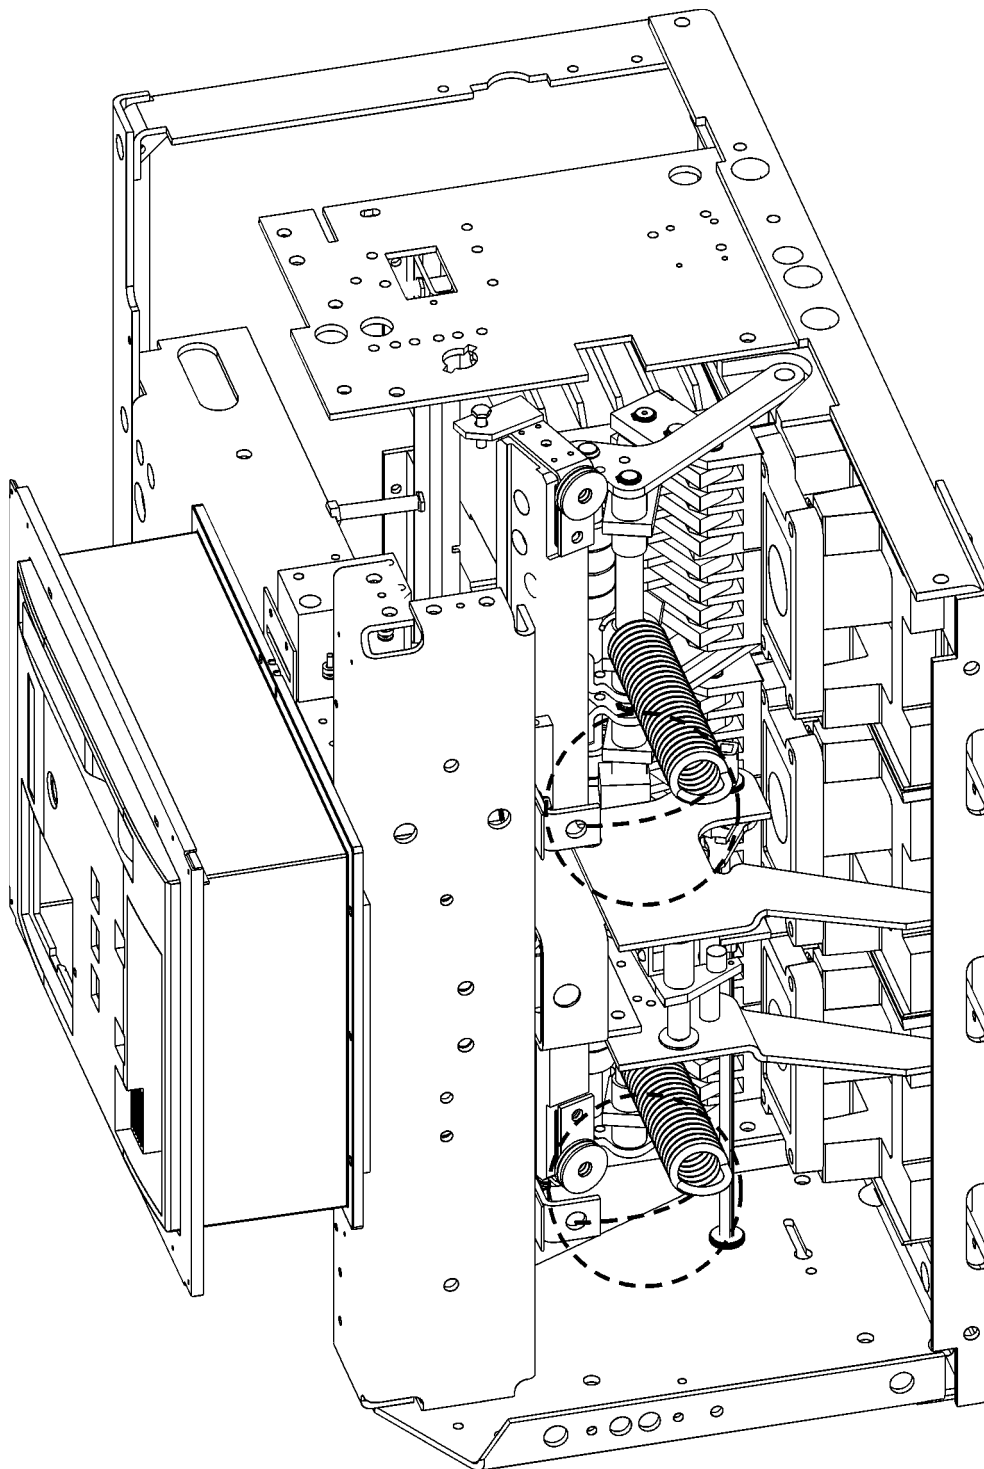

Figure 5-5. Removal of the two opening springs from the outside poles (view from the bottom of the breaker).
6. Remove the two opening springs from the outside pole units on the lower part of the breaker, as illustrated in Figure 5-5.
12. Reconnect the two opening springs to the outer pole mechanisms, as illustrated in Figure 5-5.